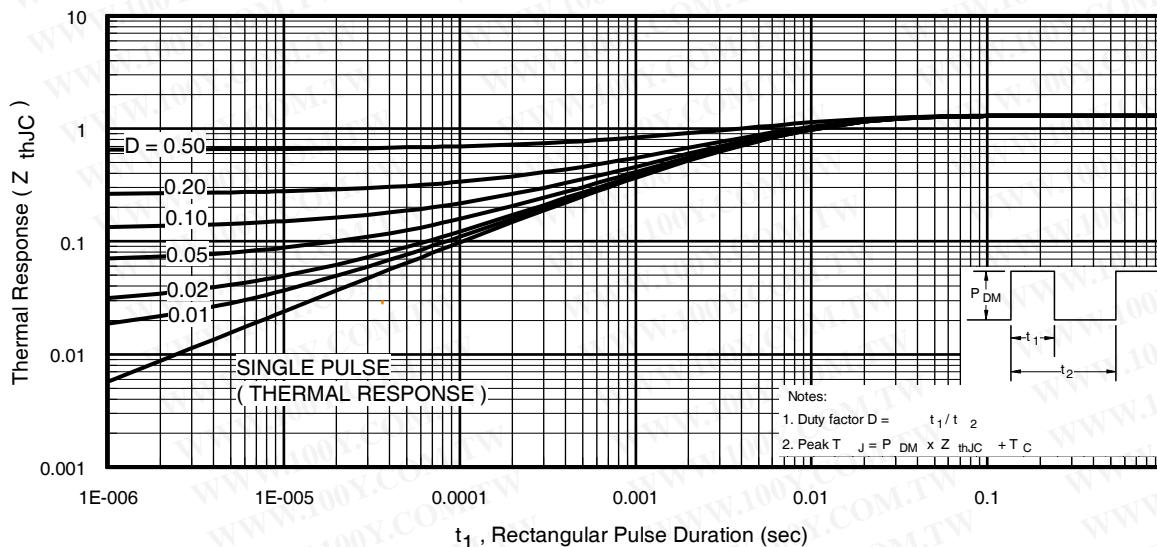

Fig 11. Maximum Effective Transient Thermal Impedance, Junction-to-Case
- $Z_{thJC}(D, t_{av}) = \text{Transient thermal resistance, see figure 11)}$